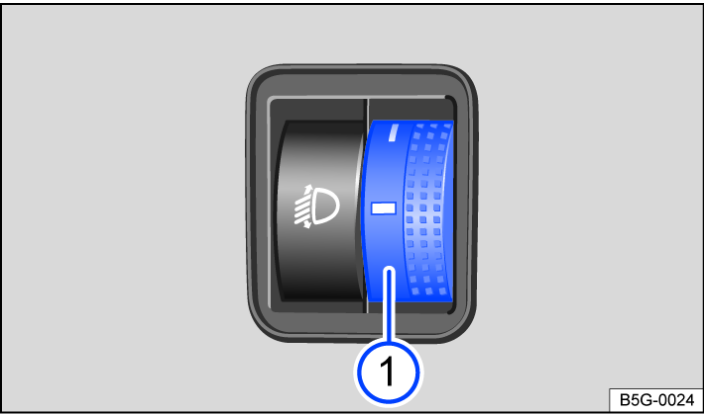
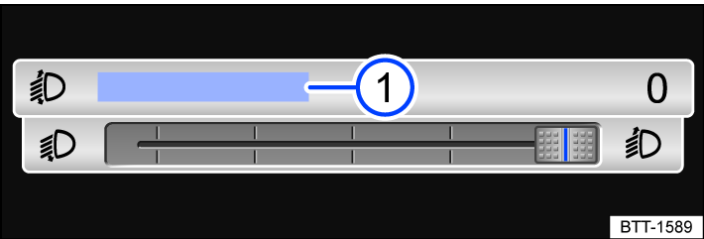

Fig. 1 Next to the steering wheel: control for headlight range control 1.
Fig. 2 In the Infotainment system: slider for headlight range control.
Depending on the equipment level, the headlight range can be adjusted either with the control → Fig. 1 or with the slider in the Infotainment system → Fig. 2.
- Touch the function button **Headlight range control** → Fig. 2 1.
- Turn the control → Fig. 1 1 to the required position (example vehicle load level).